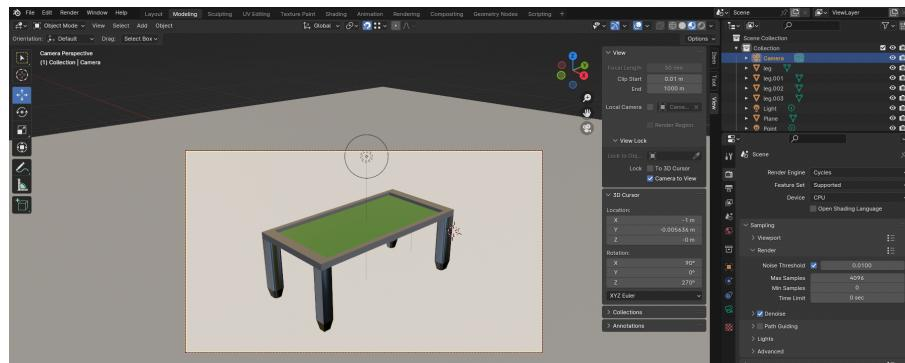

Figure 1.16: Setting camera parameters.
33. Press camera icon in the *Navigation Gizmo*. Select *View* in the sidebar of the *3D Viewport* editor. Check *Camera to View* checkbox (see Fig. 1.16).